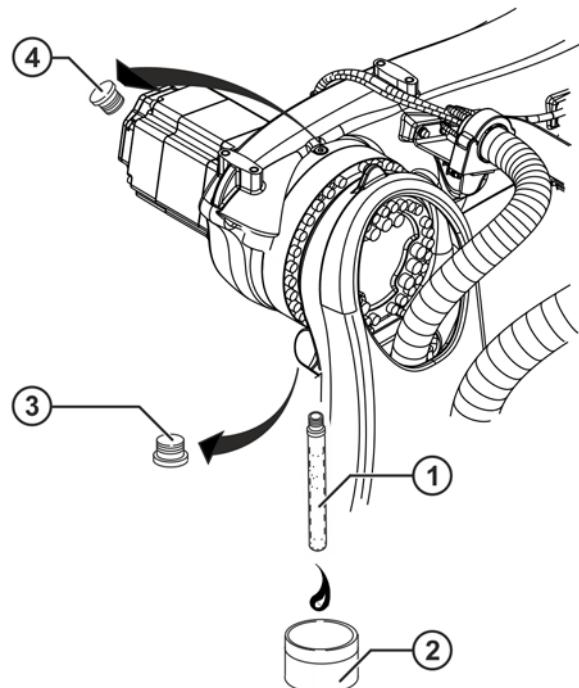

Fig. 9-7: Draining the oil from A3
1. Place a suitable receptacle (**>>>** Fig. 9-7) under the lower magnetic screw plug and remove the magnetic screw plug.